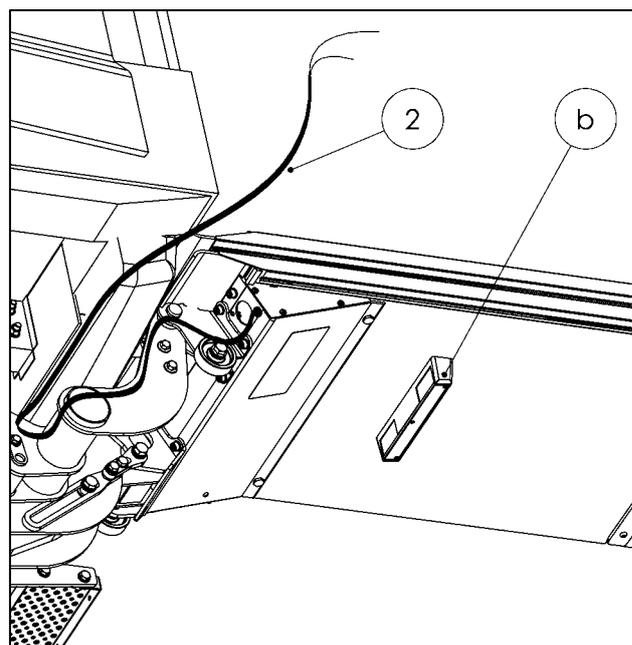

Figure 64
- Route the license plate light cable (2) (cable outlet from platform's aluminum torsion box) along the closing arm (see Fig. 64).